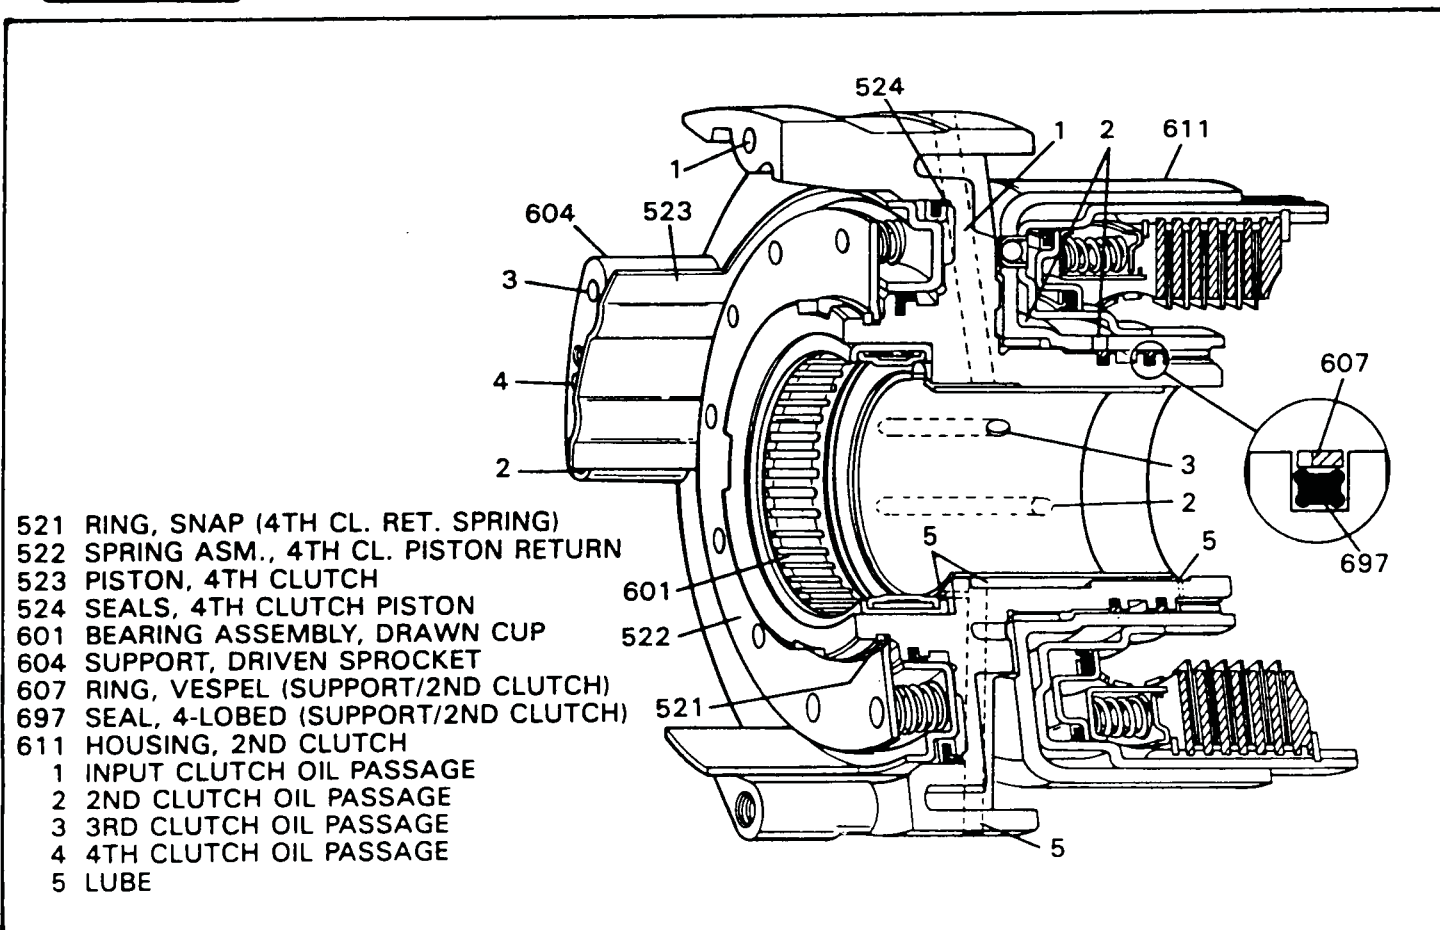
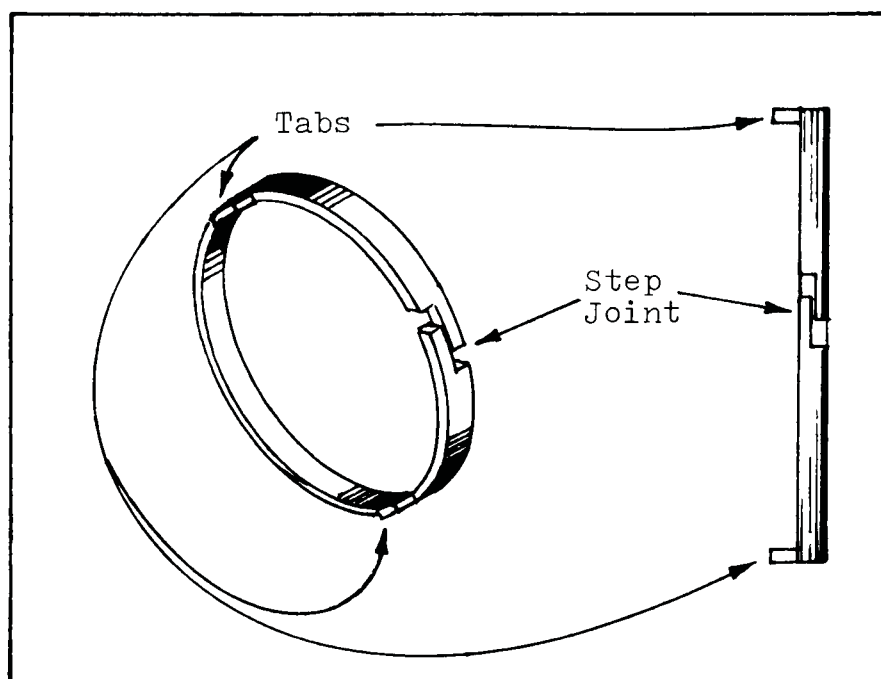

Figure 36
Figure 37
Change: "Vespel" Sealing Rings and 4 Lobe Ring (See Figure 36).
This change, also initiated in the 1987 models, related to 2nd clutch durability and was on the driven sprocket support. The 84-86 models have large steel, hook joint, sealing rings to feed the 2nd clutch. In 1987 models the steel rings were replaced with "Vespel" (Plastic), step joint, sealing rings, that have tabs on them to prevent them from spinning in the driven sprocket support (See Figure 37). This made it necessary to machine slots in the driven sprocket support, to accept the tabs on the "Vespel" rings. There is also a special 4 lobe ring that goes in the ring groove under the "Vespel" ring, and acts as an expander for the "Vespel" sealing rings (See Figure 36).
- 2) No. (697) 4 lobe ring acts as expander for (607) "Vespel" sealing ring (See Inset, Figure 36).